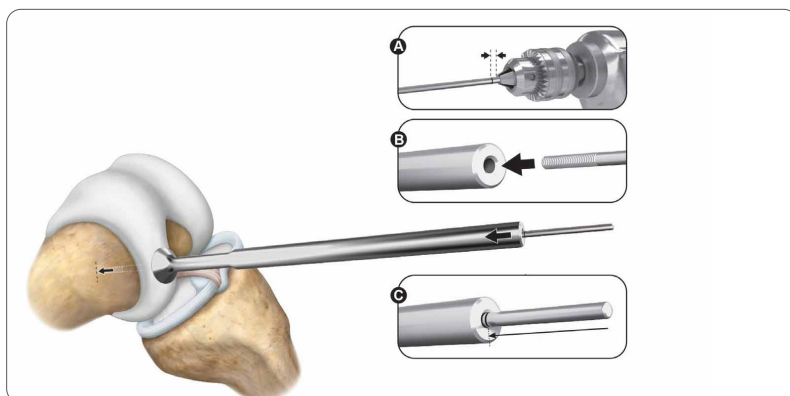

Figure 2
C. Release the K-wire from the motorized drill (**Figure 2**).